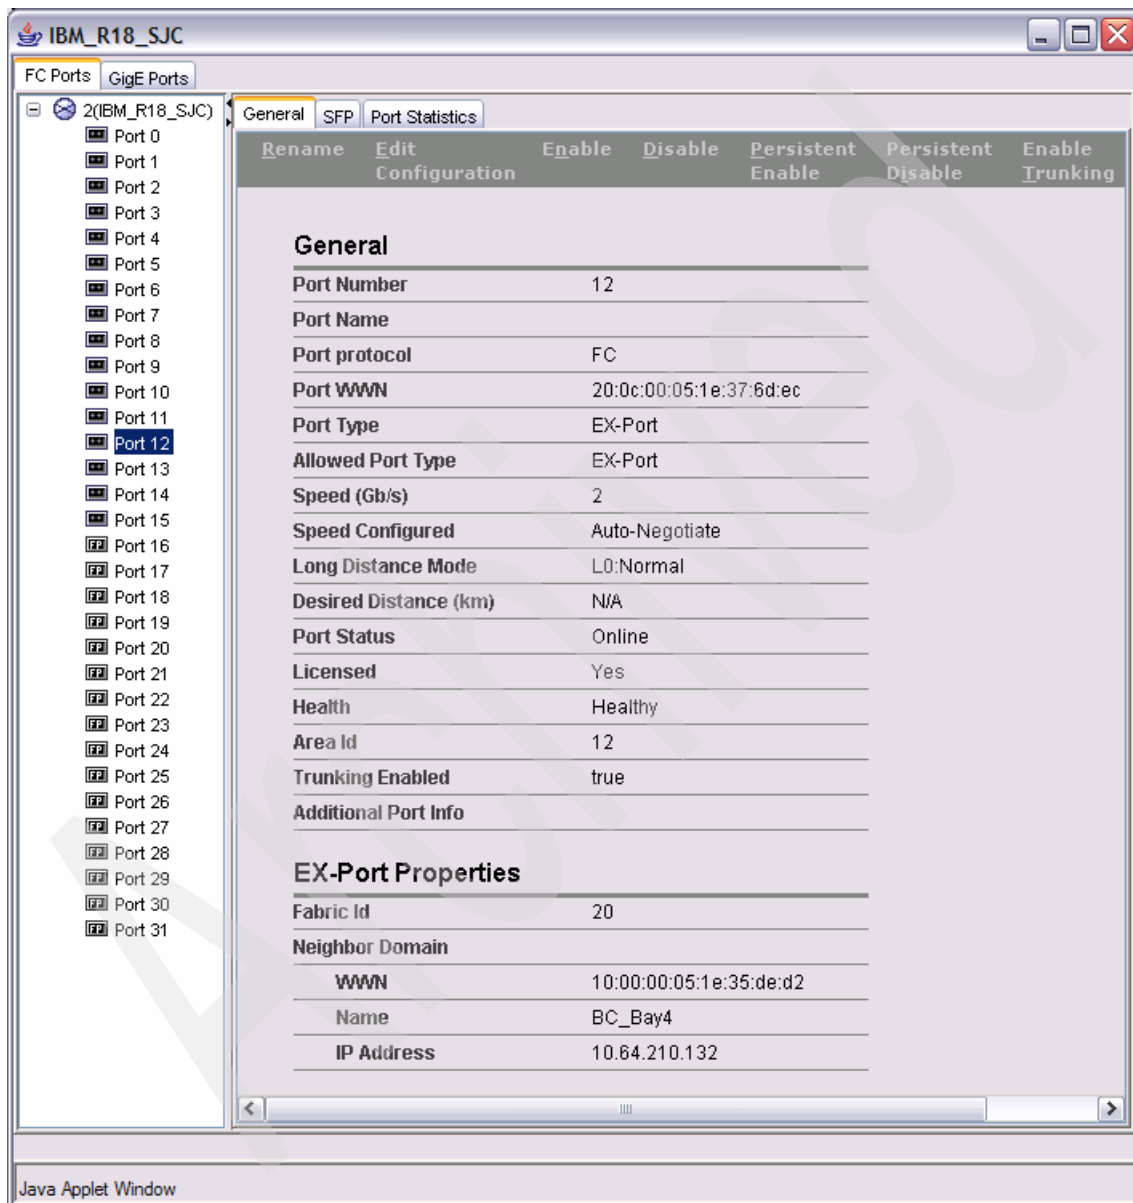

Figure 6-83 SAN Router Port 12 information
- Finally, confirm the settings and enable port 12. As you can see in Figure 6-83, the BladeCenter Fibre Switch Module and SAN18B-R router are now connected.